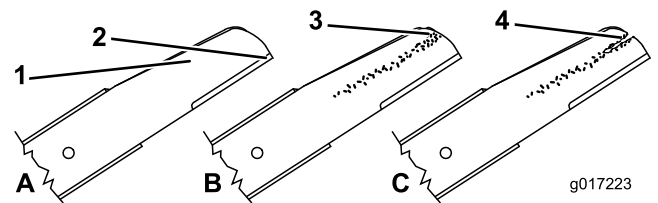
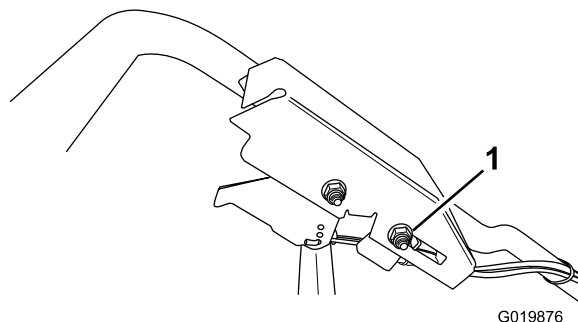

Figure 36
Figure 42
1. Inspect the cutting edges (Figure 36). If the edges are not sharp or have nicks, remove the blades and have them sharpened or replace them.
2. Inspect the blades themselves, especially the curved area (Figure 42). If you notice any damage, wear, or a slot forming in this area (Figure 36), immediately replace them with new blades.
2. Loosen the cable-support nut (Figure 42).